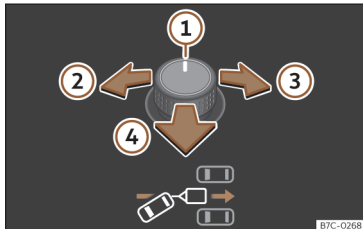
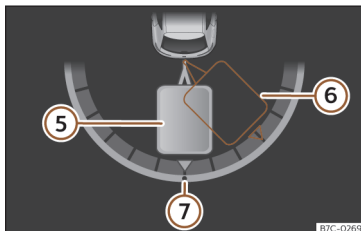

Fig. 181 Rotary exterior mirror controls: adjust the trailer angle.
Fig. 182 Instrument panel display: engage reverse gear
Key of the **Fig. 181**, **Fig. 182** :
• Tilt the rotary control until the desired direction is reached »» **Fig. 181**. A representation of the tow vehicle and trailer set is shown on the instrument cluster screen for guidance purposes »» **Fig. 182**.